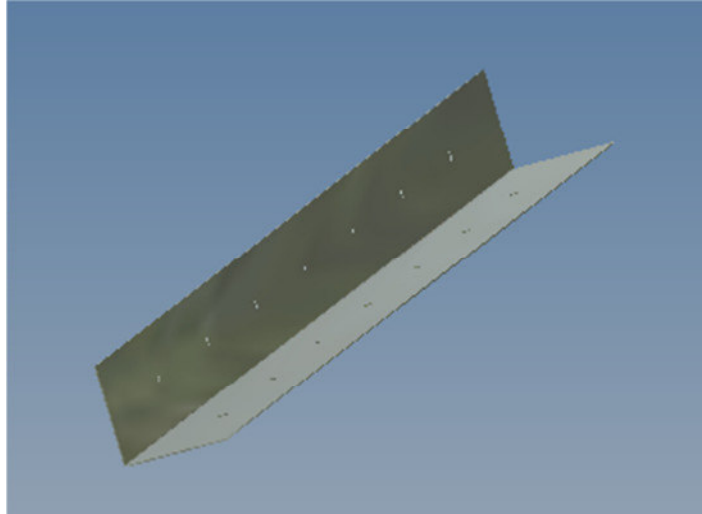
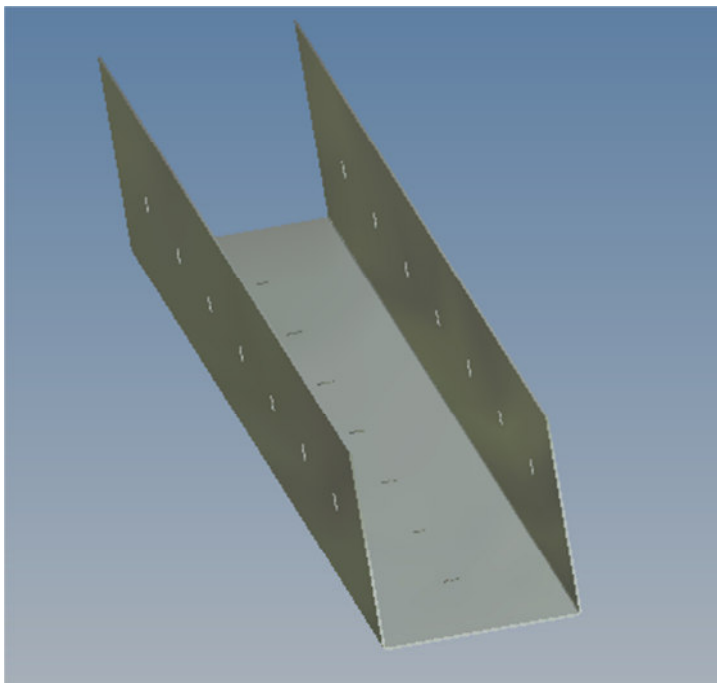

Fig. 9 Corner joint
Fig. 10 T- butt connect
3.2.6 Installation of the corner- connecting sheet metal (Fig. 9) and T- butt- connecting sheet metal (Fig. 10) for sealing the der constructive connection gaps.
- 3.2.8 Positioning of the horizontal bracing steel (Fig. 9) at the tension absorbing butt joints and at the project- specific adapting points according to the position plan and fixation on manufacturer instructions.